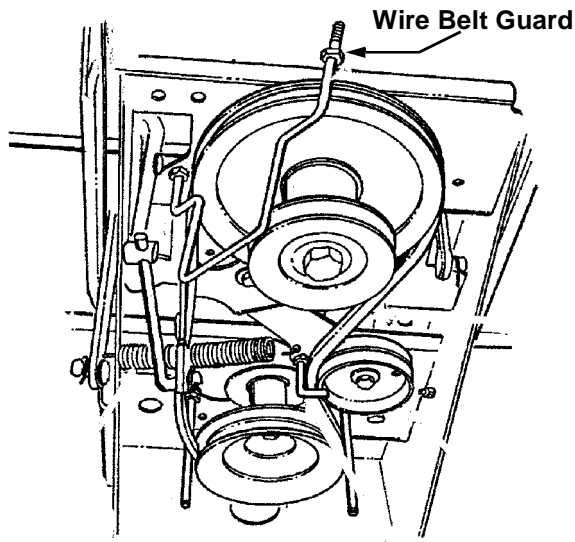

Figure 4
12. Re-install the wire belt guard located on the rear idler bracket assembly. See Figure 4.